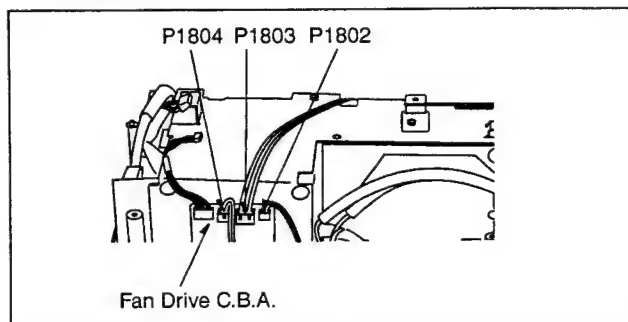

Fig. D11
2. Disconnect a connector P1803 on the Fan Drive C.B.A. as shown in Fig. D11.
4. Disconnect 2 connectors P1802 and P1804 on the Fan Drive C.B.A and carefully pull out the Optical Block as shown in Fig. D11, Page 3-8.